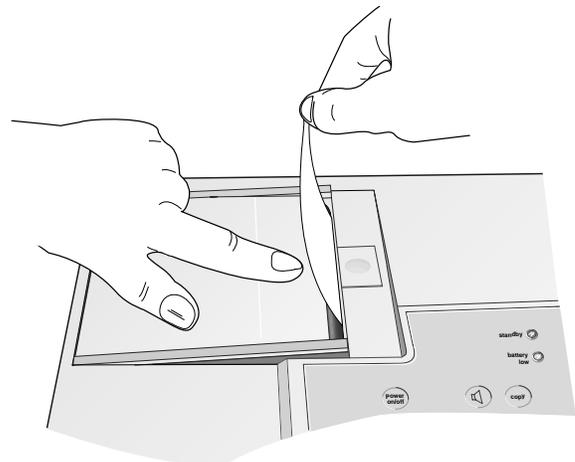

Figure 10-3. Closing the paper compartment
- Unroll a length of paper and close the door (Figure 10-3), taking care that the paper is exactly positioned on the pressure roller and that the door locks into place on both sides.